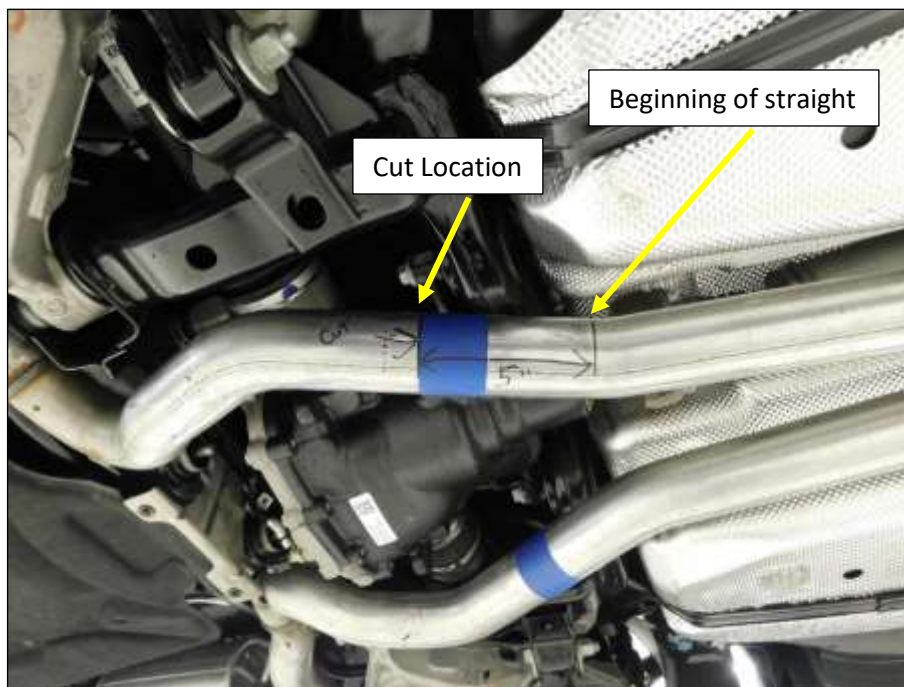

Figure 2
2. Mark the exhaust pipe between the center resonator and the muffler as shown in **Fig. 2**.
- Use a reciprocating saw or cut off wheel and cut the exhaust at the edge of the tape as shown in **Fig. 2**.